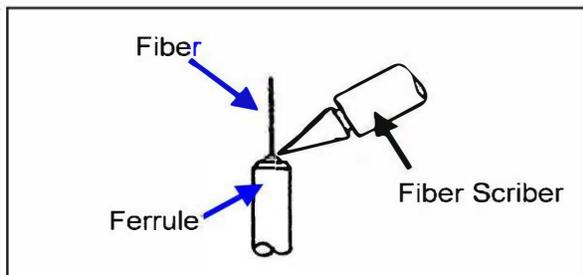

Fig 11
Step 9 Remove the fixture from the connector after epoxy is fully cured. Use a fiber scribe to cleave the protruded fiber slightly at the point where the fiber and epoxy bead meet. Gently push the tip of fiber until the fiber separates. See Fig. 11.